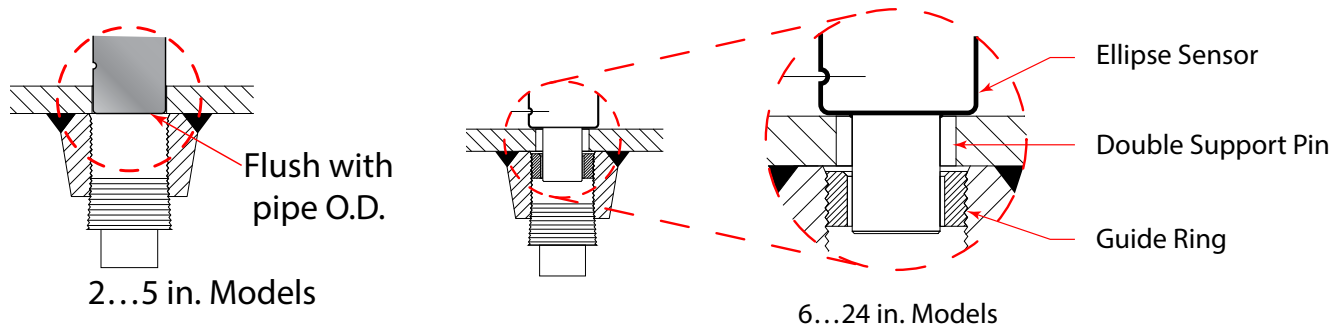

Figure 5: Double support installation
- Install the BAR Ellipse sensor through the two holes. Make sure that the double support pin passes through the guide ring. See Figure 5.